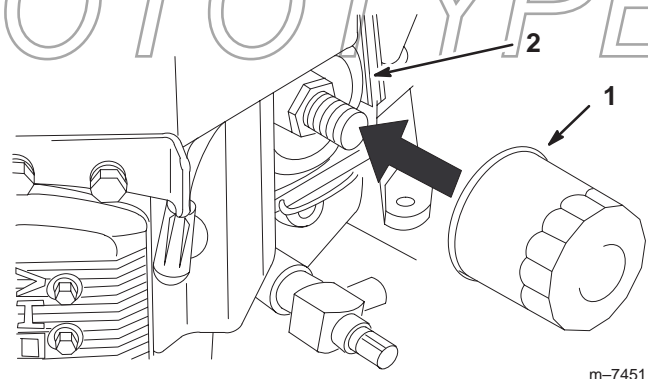

Figure 33
- Remove the old oil filter (Fig. 33).
3. Apply a thin coat of new oil to the rubber gasket on the replacement filter (Fig. 33).
4. Install the replacement oil filter to the filter adapter, turn the oil filter clockwise until the rubber gasket contacts the filter adapter, then tighten the filter an additional 3/4 turn (Fig. 33).